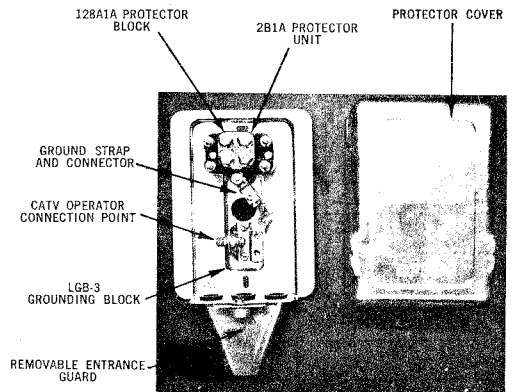

Fig. 5 — Protector QPL3A
2.06 The QPL3A Protector is an outside wall mounted protector (Fig. 5) consisting of a 128A1A-2 Two Station Protector and a coaxial